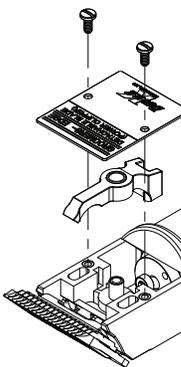

fig. 2
Once a month remove cover plate and blade lever so that all collected hair can be brushed out. (fig. 2) Be careful not to displace the felt pads that are located next to the lever. Lubricate the hole and cut out notch in the back of the lever with all-purpose grease. While the blade lever is removed, place a dab of grease on the front of the lever bearing which is located on the front of the flywheel. (fig.3) Re-install the blade lever being sure the lever bearing on the flywheel fits into the cutout notch in the rear of the lever. Clean and replace the cover plate. Tighten screws snugly. Spread thin film of grease on top of lever where blade is contacted.
**2. Check metal hinge stabilizers on the blade.** With the blade removed from the clipper handpiece, hold the blade in hand with the moving portion of the blade (the cutter) facing you. Observe the metal spring clip which holds the cutter to the stationary portion of the blade (the comb). The spring clip has two metal protrusions attached to either side of the cut-out mid-section (fig. 2) which stabilizes the blade to the latch and hinge assembly during use. If these protrusions are too far apart, the blade is not stable during clipping and therefore will chatter during use.